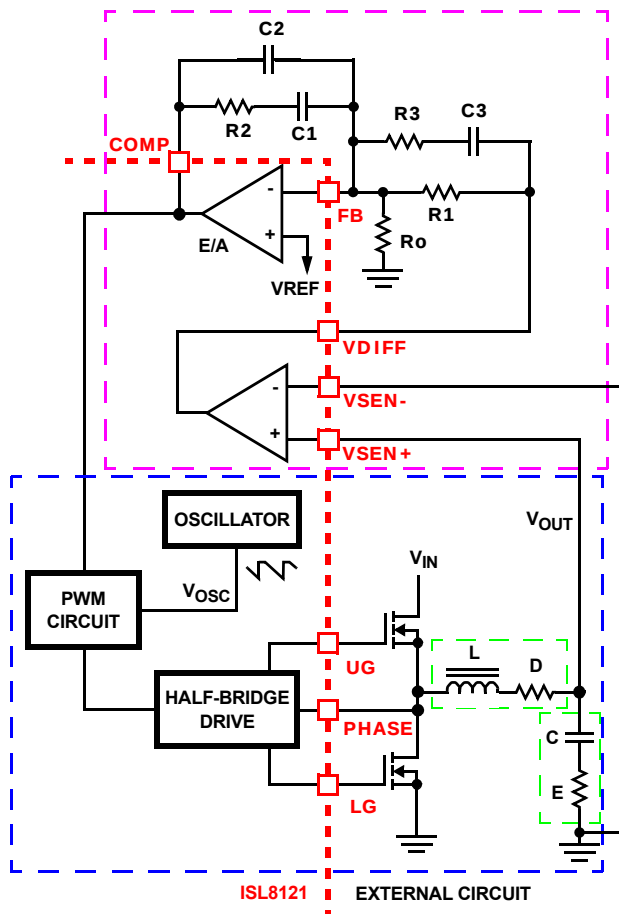

FIGURE 24. VOLTAGE-MODE BUCK CONVERTER COMPENSATION DESIGN
Figure 24 highlights the voltage-mode control loop for a synchronous-rectified buck converter, applicable, with a small number of adjustments, to the multi-phase ISL8121 circuit. The output voltage (V_{OUT}) is regulated to the reference voltage, V_{REF} , level. The error amplifier output (COMP pin voltage) is compared with the oscillator (OSC) modified saw-tooth wave to provide a pulse-width modulated wave with an amplitude of V_{IN} at the PHASE node. The PWM wave is smoothed by the output filter (L and C). The output filter capacitor bank's equivalent series resistance is represented by the series resistor E.
1. Select a value for $R1$ (1kΩ to 5kΩ, typically). Calculate value for $R2$ for desired converter bandwidth (F_0). If setting the output voltage via an offset resistor connected to the FB pin, R_0 in Figure 24, the design procedure can be followed as presented. However, when setting the output voltage via a resistor divider placed at the input of the differential amplifier, in order to compensate for the attenuation introduced by the resistor divider, the obtained $R2$ value needs be multiplied by a factor of $(R_p + R_s)/R_p$. The remainder of the calculations remain unchanged, as long as the compensated $R2$ value is used.